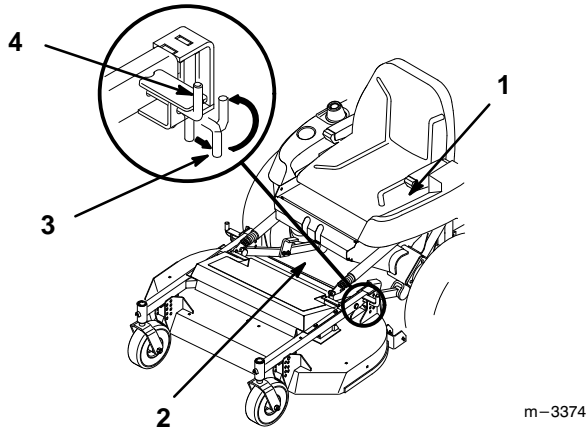

Figure 5
2. Lift on the mower carrier frame to release weight on latch pin and pull out on latch pin to release (Fig. 5). Repeat on the other side. Lower rear of mower onto anti-scalp rollers.